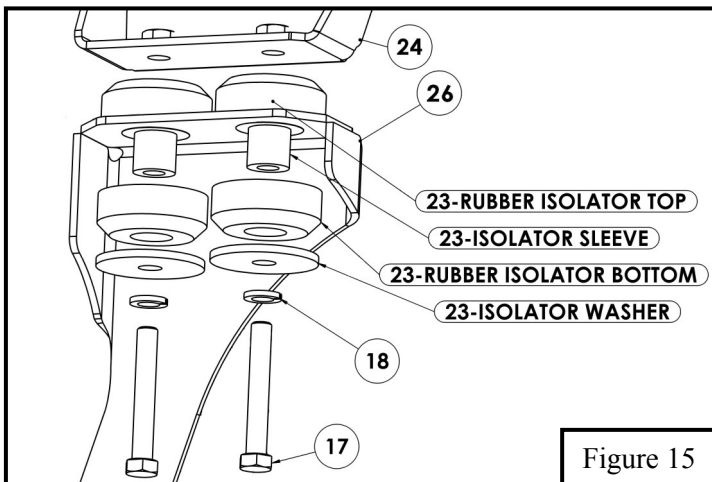

Figure 15
14. Install Rear Bottom Isolator Bracket (Item 26) to previously mounted Rear Top Isolator Bracket (Item 24) with supplied Isolator Kit (Item 23) and M12 Hardware. Assemble loosely. See **Figure 15**